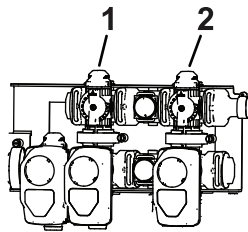

Figure 22
11. Adjust the agitation-bypass valve (Figure 22) on the backside of the agitation valve until the pressure reading on the gauge is 6.9 bar (100 psi).
9. Adjust the master-section-bypass handle to control the amount of agitation occurring in the tank (Figure 22).